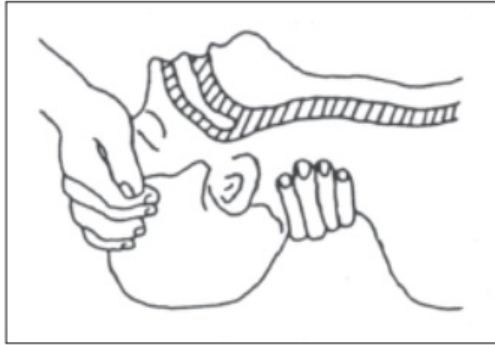

Figure 1
- Open airway: lift up neck, push forehead back (Figure 1).